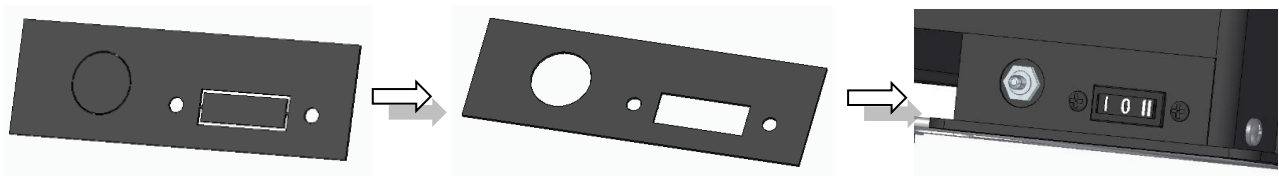

Figure 49 – Micro-switch attachment and On-Off button
c. Finally, you must put the micro-switch and the On-Off button in place, as shown in Figure 49, You must first break the micro-joints of the plate located inside the equipment, in the lower right-hand corner, to secure the components